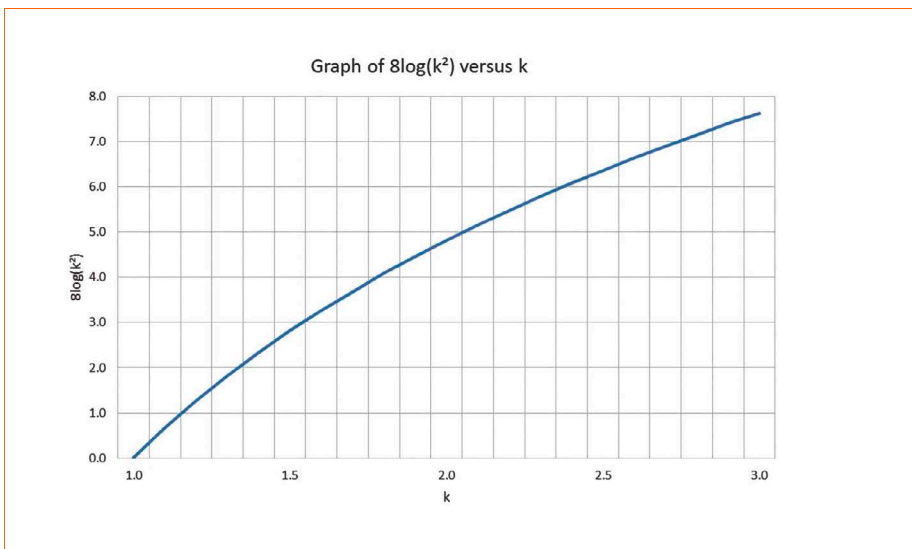

Figure 5: Values of  $8 \cdot \log k^2$  for values of  $k$
The practical implication of this is that as the non-uniformity of the glare source increases (i.e. the numerator in **Equation (4)** increases with respect to the denominator), the perceived discomfort glare will also increase because it is additive, as shown in **Equation (3)**. Representative values of  $8 \cdot \log(k^2)$ , and hence the increase in UGR value, are shown in **Figure 5** for  $k = 1$  to  $k = 3$ .